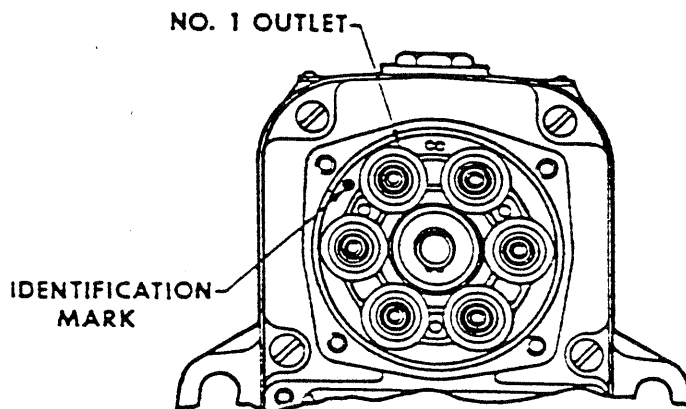

Figure 708. Location of Lubrication Identification Mark
- G. Using a small scraper or knife, clean electrodes of distributor block (79) to remove any carbonized deposits. Do not attempt to grind or machine electrodes.
- H. If block is phenolic or buna type (see Note above) and is not marked with a raised boss or a drill point indentation to the left and adjacent to No. 1 high tension tower (see Figure 708), remove old lubricant as follows:
- (1) Place distributor block, high tension towers up, on a piece of absorbent material, such as cardboard, in a 250°F oven for 4 hours. This should cause impregnating oil to appear on surface of bushing and on absorbent materials.
- (2) Remove block from oven and using a clean, dry cloth, immediately wipe all oil possible from inside diameter of bushing. It may be necessary to wipe bushing several times as part cools, as well as to repeat this procedure until old oil is thoroughly purged.
- (3) Identify distributor block by drilling an indentation 0.125 inch diameter and 0.016 inch deep located as shown in Figure 708.